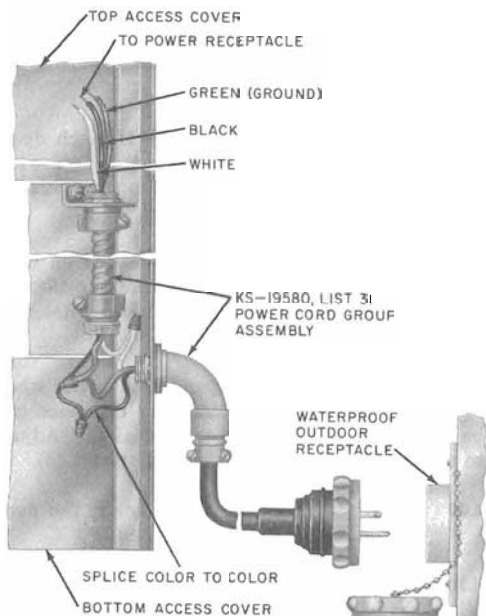

Fig. 19—KS-19580, List 31 Cable and Cord Group for Ground Level Entrance
3.11 For ground level entrance with plug-in features, use KS-19580, List 31 power cord group and install per Fig. 19.